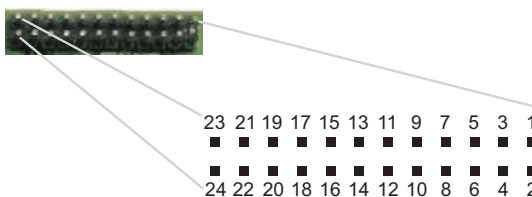

Figure 40: Top-view of 24-Pin Connector on the OEMV-2
- f. See also *Figure 40* on *Page 115* and its table.